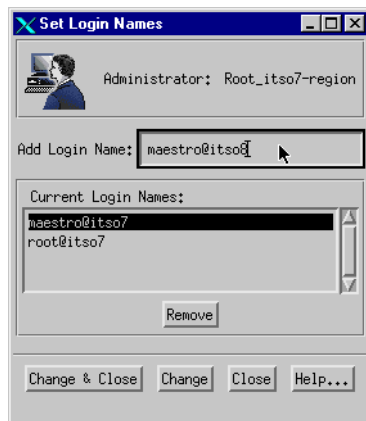

Figure 35. Set Login Names
2. The user login name must be the same as the TWS user in the host that you are connecting through JSC. In the screen, shown in Figure 35 on page 56, we entered `maestro@itso8` where `itso8` is our TWS Master.